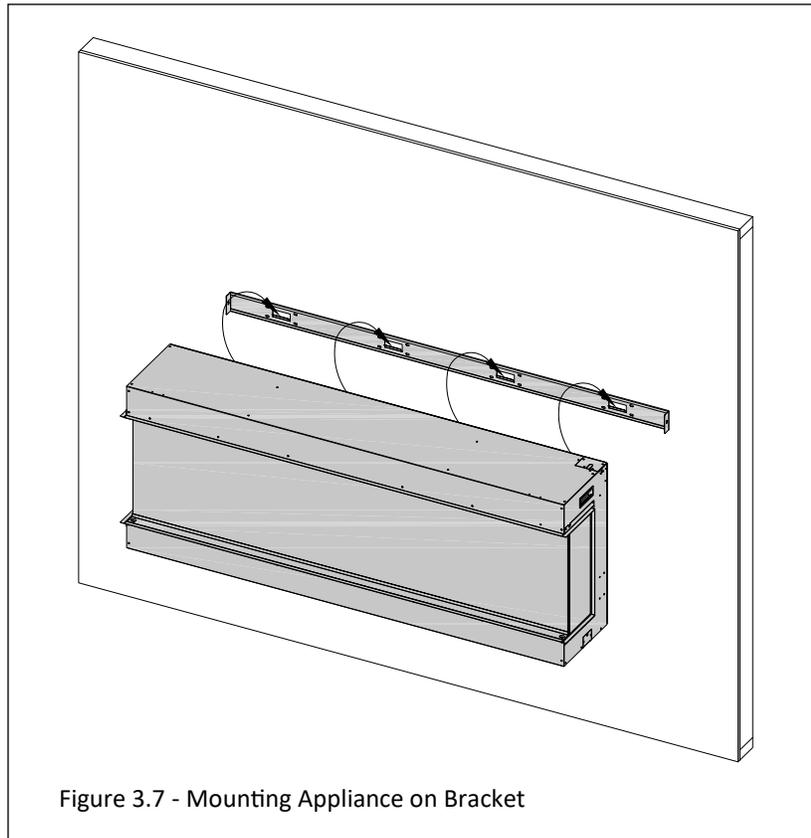

Figure 3.7 - Mounting Appliance on Bracket
3. Hang the appliance on the bracket and reinstall the (2) screws removed in step #1 (Figure 3.7).